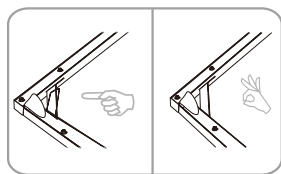

Figure 8
5. Make sure four corners are 90 degree then sure with link rod (Figure 8).